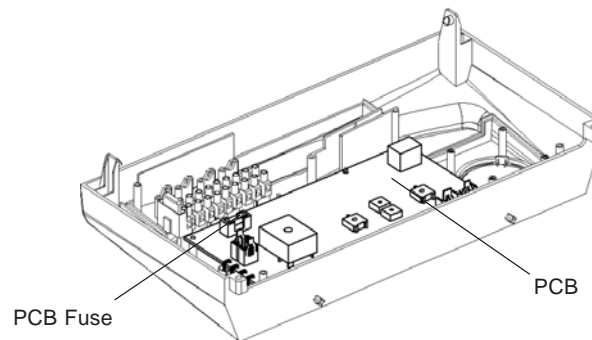

Fig. 28
8.14 PCB - Fig. 28
| Fig. 28 | PCB | 1 | 1.027267 | H28-397 |
| Fig. 28 | PCB fuse F315mA | 1 | 1.013931 | E96-571 |